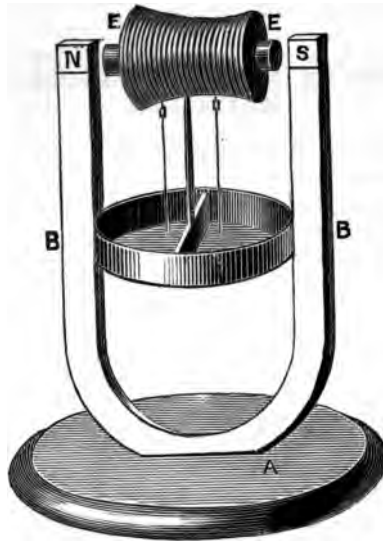

FIG. 120.—SIMPLE ELECTRO-MOTIVE TOY.
THE first and simplest of electro-motive toys I will now describe is actuated in the way as mentioned in the last chapter. A, Fig. 120, p. 258, is a wooden stand holding, in an upright position, the horse-shoe magnet (B); this is a permanent magnet of hard steel, of which the north and south poles are marked N.S. Between them rises an upright steel rod, on the pointed end of which a soft bar of iron (E), wound with coils of covered copper wire, is balanced to turn easily. The ends of this wire, which are uncovered, are formed into loops, from which hang loosely two bits of straight wire, amalgamated with mercury at their lower ends, and dipping into a circular trough of mercury, divided across by a partition of wood.